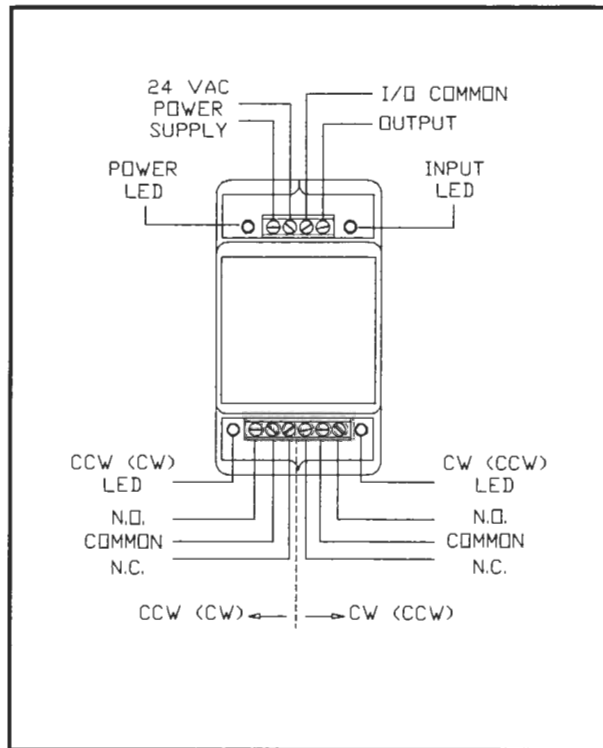

Fig. 2, Terminations
CONNECTIONS: 4 position terminal strip for supply and and input signals, 6 position terminal strip for relay outputs (See fig. 2).
3. There are a total of 4 LED's on the M930 (fig. 2). The LED nearest the 24 VAC supply terminal indicates power to the module. The LED located directly adjacent to the input terminals is for diagnostic purposes, and indicates the presence of a duty cycle signal. The two LED's near the relay output terminals pulse with their CW and CCW relays respectively.